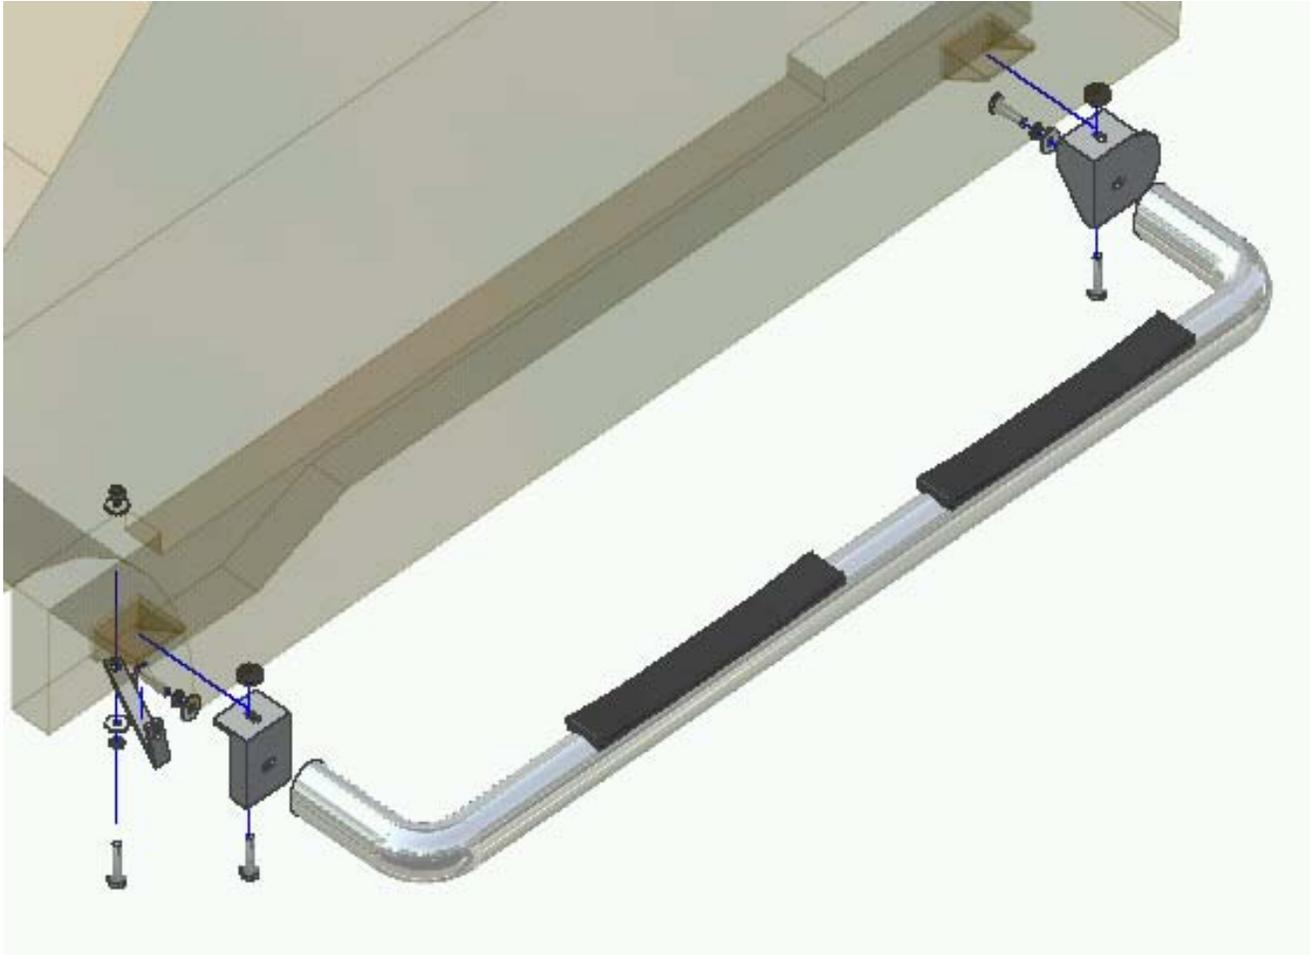

Figure 1.1 - Front Driver-Side View
1. Begin installation by working on driver side of the vehicle (refer to Figures 1.1- 1.3)
3. Attach Mount Brace to bottom of vehicle frame rail using (1) ½" – 13 x 7½" hex head bolt, (1) ½" lock washer, (2) ½" flat washers, and (1) ½" hex nut. The slot on the short end of the Brace Bracket should align with the Front Mount Bracket slot.
Note: Step Pad closer to the end of the tube goes to the rear (see Figure 1.1).